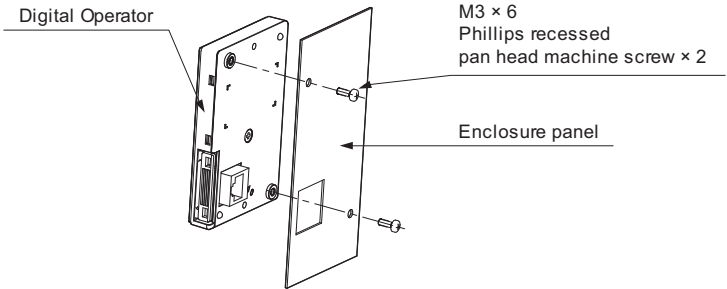

Figure 2.7 External/Face-Mount Installation
- 2. Position the digital operator so the display faces outwards, and mount it to the enclosure panel as shown in Figure 2.7.